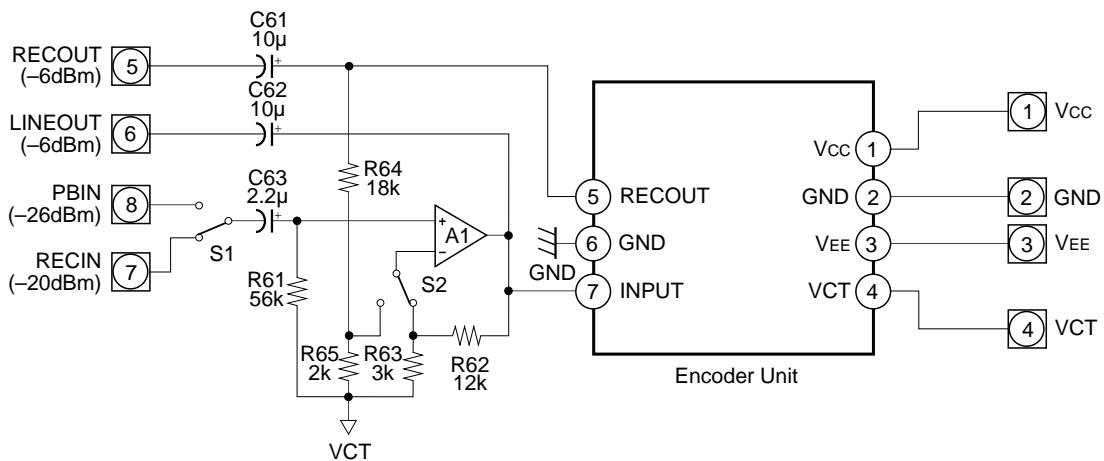

Fig. 3. Switchable Processor
Fig. 3 shows the switchable processor. The gains are the same as in equations (1) and (2). An operational amplifier is required with low noise, average slew rate ($> 3\text{V}/\mu\text{s}$), and wide bandwidth ($\approx 10\text{MHz}$) for this gain setting. A bipolar input type operational amplifier with a wide bandwidth like those of the 4560 and the 4570 is required of the switchable processor.
The processor in Fig. 3 may generate a significant switching noise, especially when S2 switch is make-break-make type. When S2 switch is a make-to-make type or has a quick switching feature, the switching noise will be within the range acceptable for cassette decks with output muting circuits.